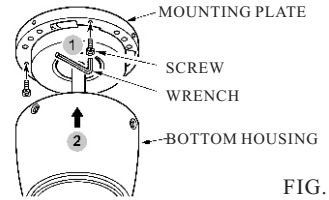

FIG.8
5. Tighten the 3 screws to fix the motor using allen screws and wrench provided.(see fig.8)